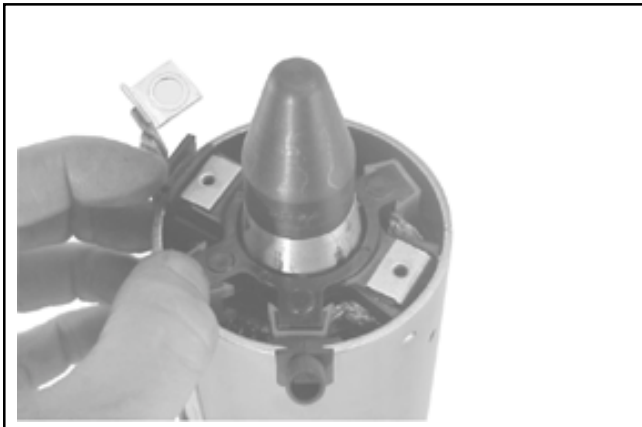

Figure 8-66. Installing Brush Holder Assembly using Tool with Extension.
- d. Hold the starter assembly vertically on the end housing, and carefully place the tool (with extension) and assembled original brush holder assembly onto the end of the armature shaft. Slide the brush holder assembly down into place around the commutator, install the positive (+) brush lead grommet in the cutout of the frame. See Figure 8-66.